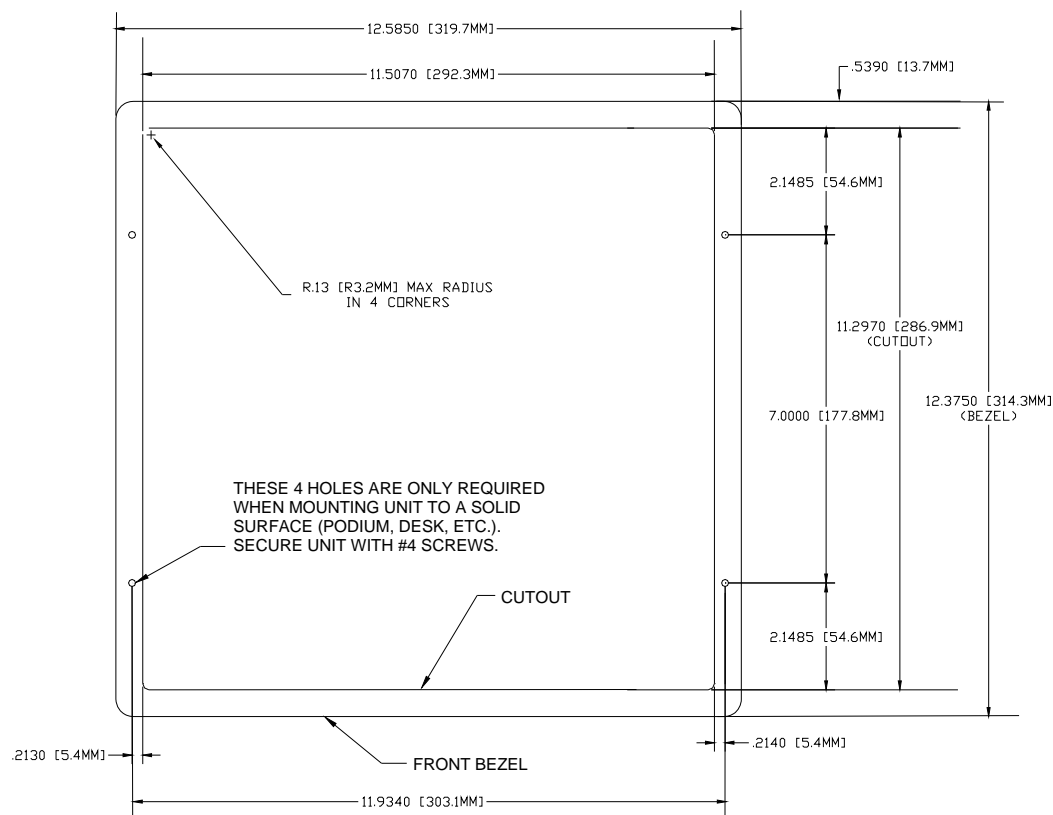

FIG. 41 NXD-1200V Wall Mount panel dimensions using #4 mounting screws
2. Cut out the surface for the **12-inch Wall Mount** using the dimensions shown in FIG. 41.